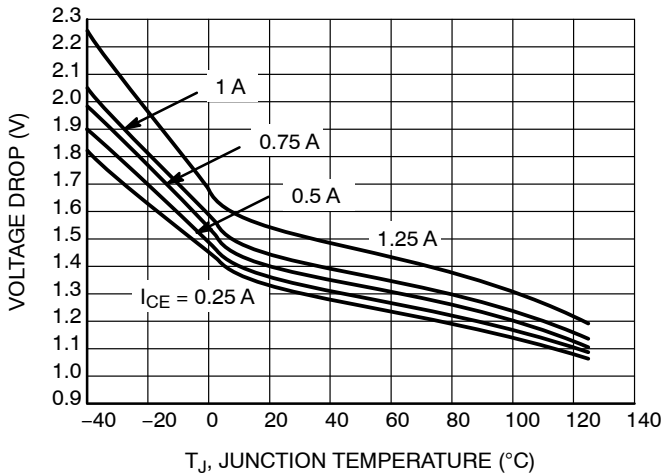

Figure 7. Emitter Follower Configuration Output Darlington Switch Voltage Drop vs. Temperature
8. V_{SWCE} – Darlingon Switch Collector to Emitter Voltage Drop, refer to Figures 7, 5, 8 and 9.